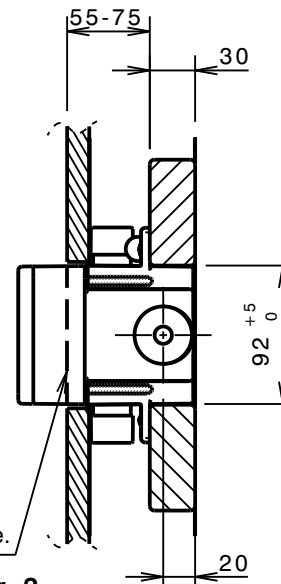

Fig. 2
- 5) Once inwall body installation has been completed, replace & secure mounting box cover (3) using screws (4). Complete lining & tiling process. After tiling is complete, trim excess mounting box tiling flange so that it flush with the finished surface (Fig.2). Re-attach mouting box cover (3) using the screws (4).